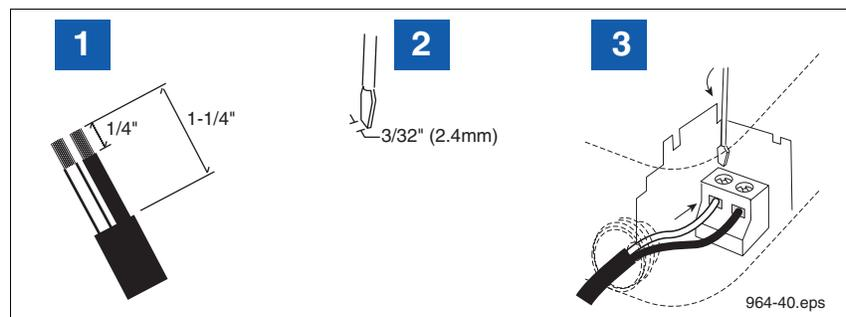

Figure 4. Connecting wiring to device terminal blocks
- d. Strip back the cable jacket and wires as shown in Figure 4.
LEGEND FOR NUMBERED BOXES IN Figure 4
NOTE: see Figure 4 for wire connection tips. NOTE: In sites with more than one TLS RF, the Receiver is only connected to the master TLS RF.